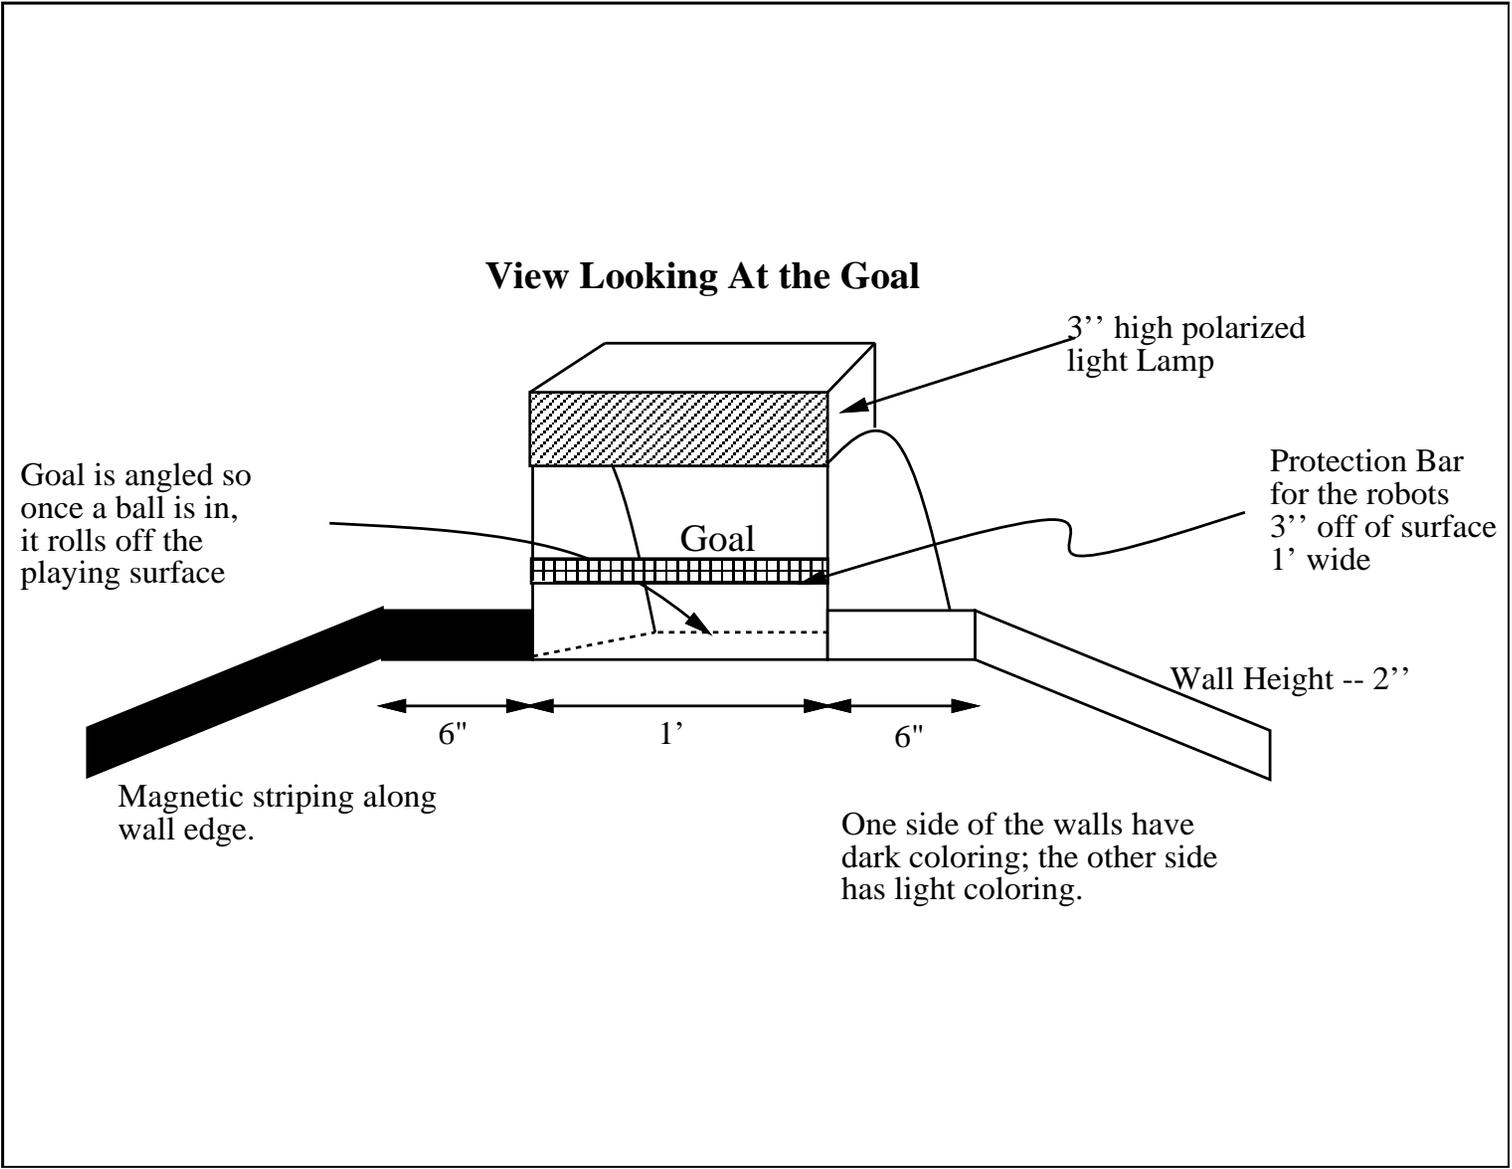

Figure A.3: Robo-Cup '92 Contest Goal Specification
See Figure A.3 for an illustration of the goal.
- Goals will have panels that emit polarized light at one of two orientations: a +45 degree and -45 degree (with respect to the vertical) polarization (see Figure A.3).